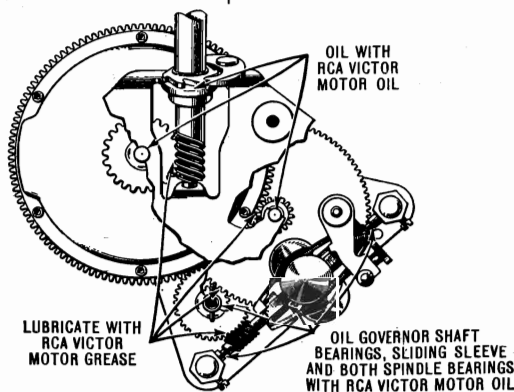

Figure 1—Lubrication Diagram of Model 2-65
**Motor.** Figure 1 shows a view of the motor with the top plate removed. Before lubricating the parts shown in this illustration, a thorough cleaning with carbon tetra-chloride (Carbona) or gasoline is necessary. If necessary disassemble the entire motor for such cleaning.